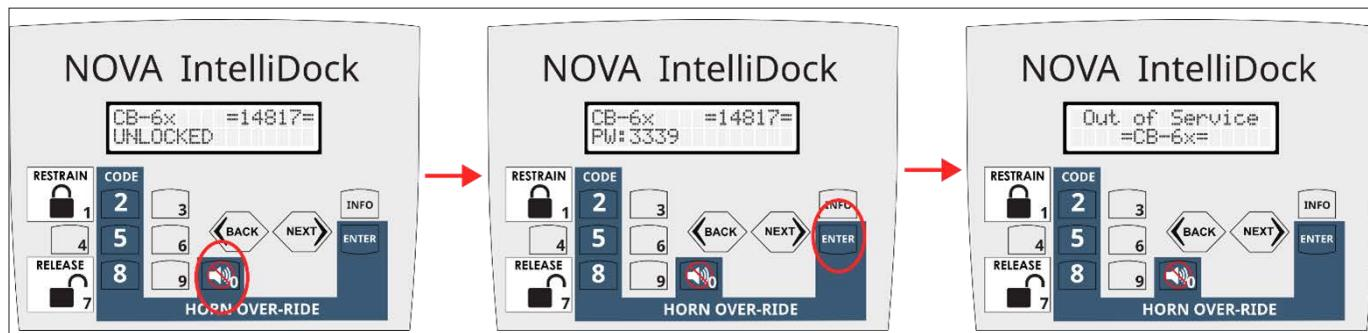

FIGURE 13.1—SEQUENCE TO ENTER "OUT OF SERVICE" MODE
- Figure 13.1 shows the screen that should appear on the control box display.